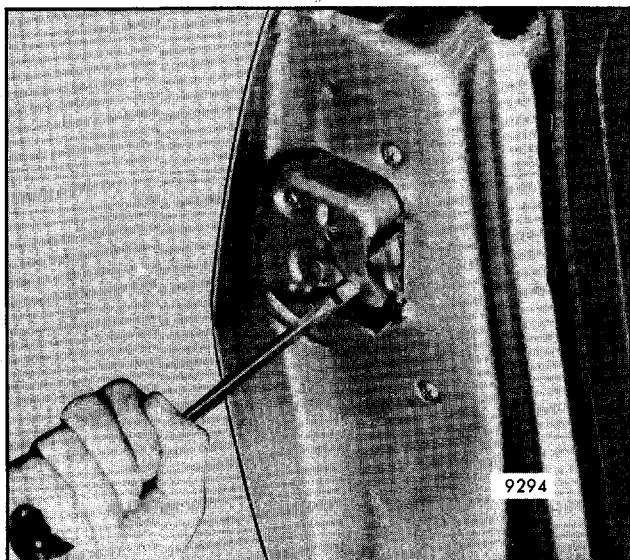

Fig. 7-149 - Manually Latch Upper Right Lock - Upper Lock Shown, Lower Lock Same
4. Manually latch right upper lock as shown in Figure 7-149.